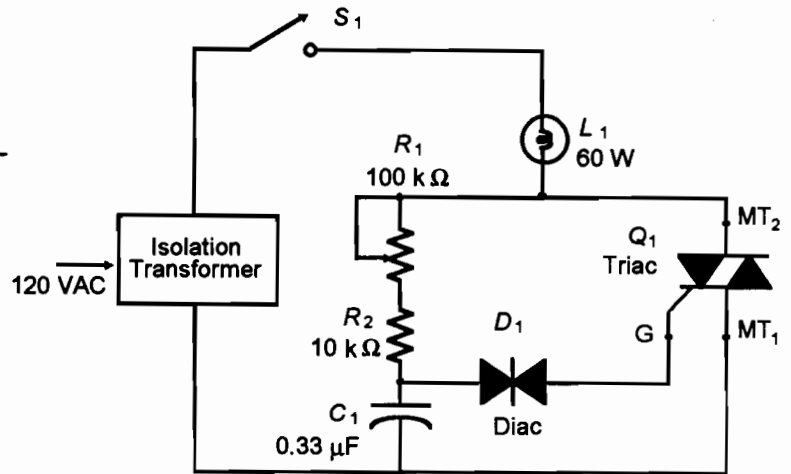

Figure 68.1
1. Build the circuit of Figure 68.1. Make sure switch  $S_1$  is open. Set potentiometer  $R_1$  to its maximum resistance. Do not apply AC power at this time.
3. In the circuit in Figure 68.1, the triac is triggered after the \_\_\_\_\_.